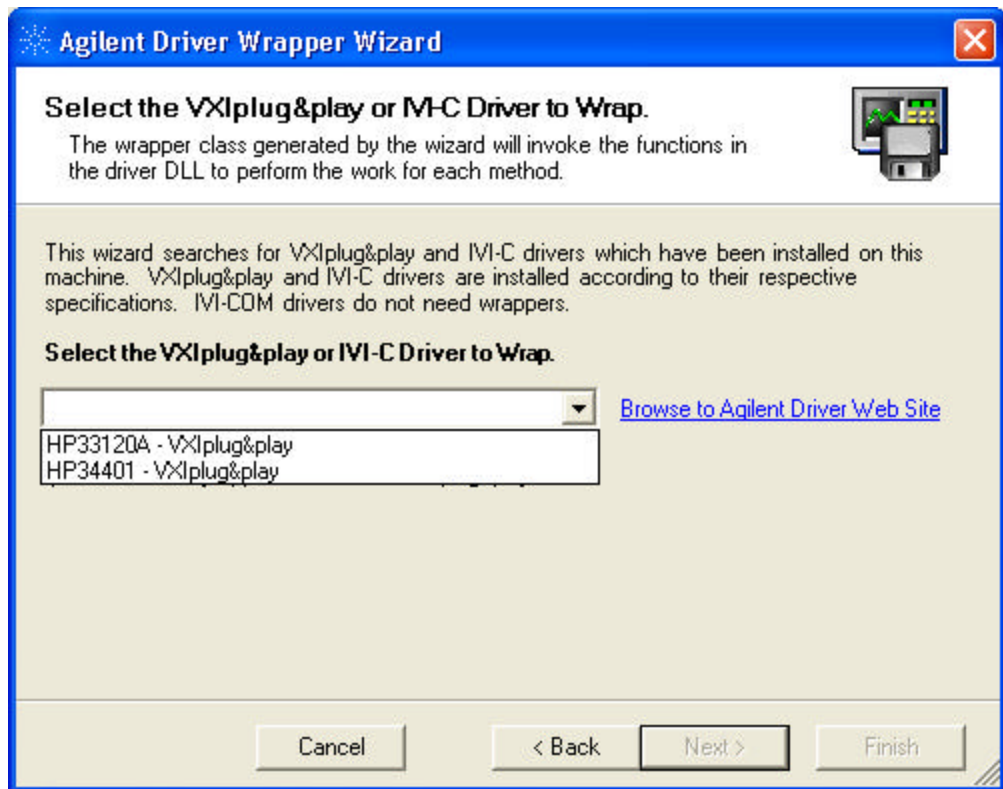
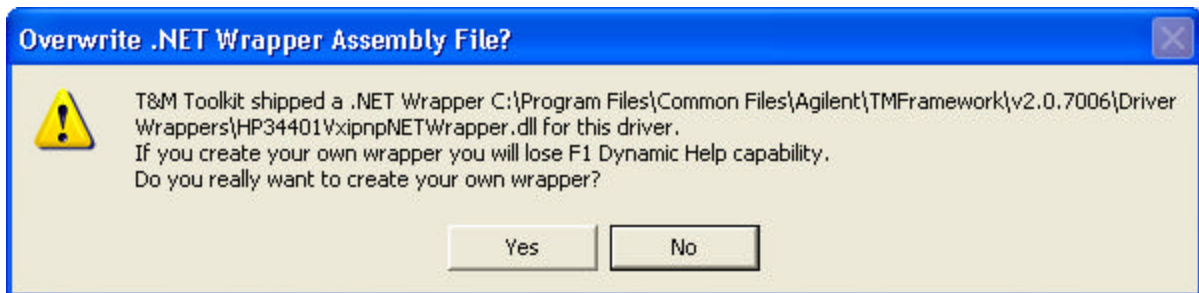

Figure 32 Selecting a VXIplug&play or IVI-C Driver to Wrap
Figure 33 T&M Tooling Driver Wrapper Exists
- 5 Once you have selected a driver (shown in Figure 32) you might see the message in Figure 33. If you see this message, T&M Toolkit has shipped with a wrapper for this instrument. Cancel the driver definition process and use Instrument Explorer to establish your instrument connection using this driver and the existing wrapper. If you don't see this message box, choose **Next**.